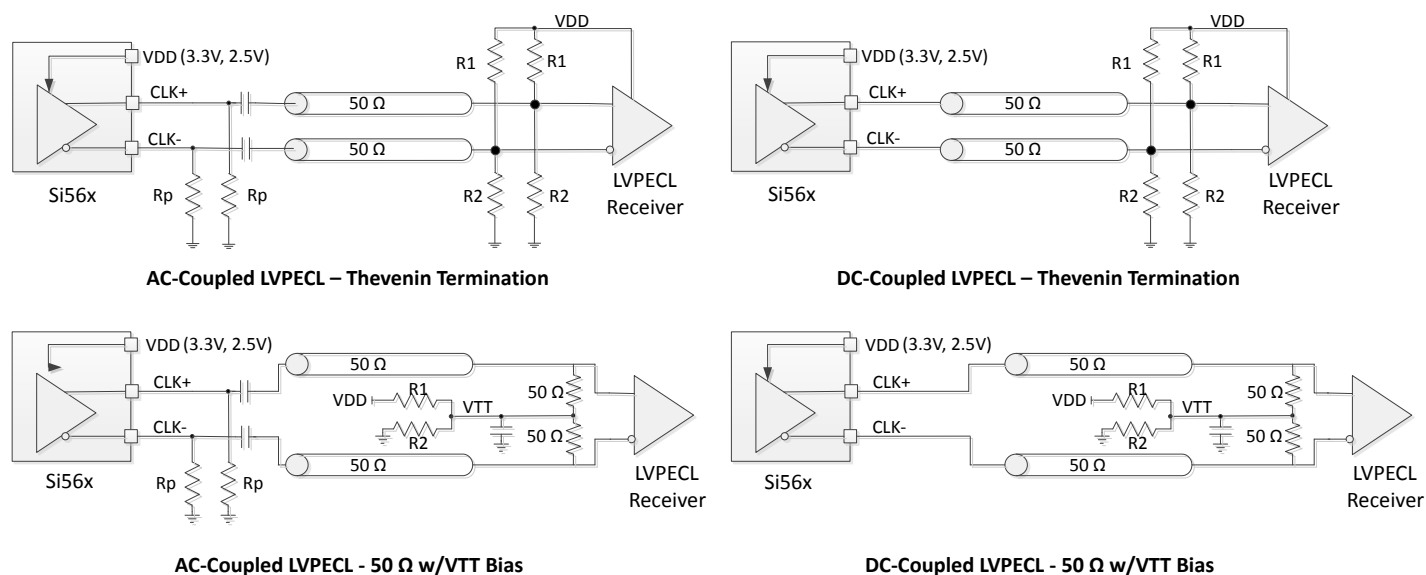

Figure 4.1. LVPECL Output Terminations
3. R_{term} = 50 Ω to V_{DD} − 2.0 V (see Figure 4.1).